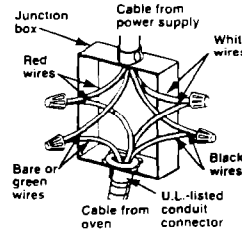

Figure 2
4. Connect the two black wires together, then connect the two red wires together. See Figure 2